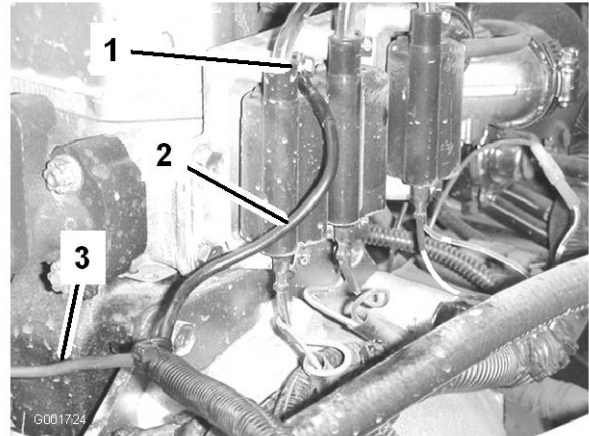

Figure 5
9. Ground the black wire on the wiring harness to the engine using a coil bolt or other suitable ground (Figure 5).